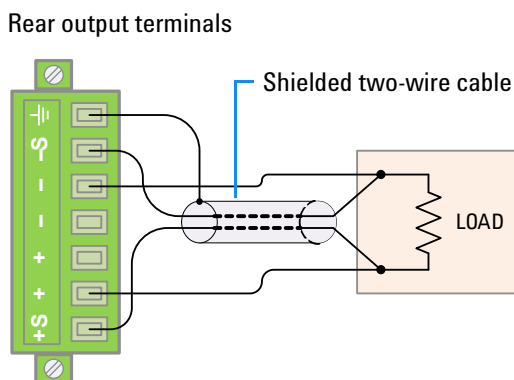

Figure 3-3 Remote sensing connections
- 4 Loosen the top screws with a Phillips screw driver and connect the rear output terminal block sensing (S+ and S-) and output (+ and -) terminals to the load as shown in **Figure 3-3** using a shielded two-wire cable.
The sensing outputs (S+ and S-) must not be left unconnected. It must be connected locally (**Figure 3-4**) or remotely (**Figure 3-3**).
- 2 Remove the connections between the U3606A sensing (S+ and S-) and output (+ and -) terminals. Using a shielded two-wire cable, connect the U3606A sensing terminals to the load as shown in **Figure 3-3**. Observe the polarity when connecting the sensing leads to the load.